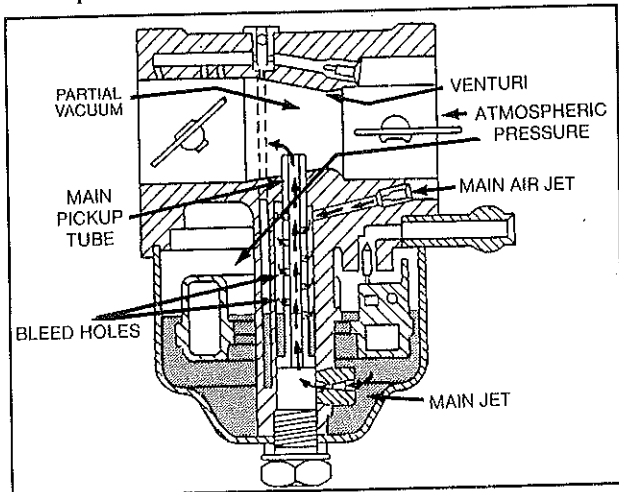

Fig. 6 - High Speed Operation
1. As the piston opens the intake port, a partial vacuum forms in the carburetor throat, Fig. 6.
2. Atmospheric pressure pushes air through the venturi causing a drop in pressure at the venturi throat, Fig. 6.
4. Atmospheric pressure pushes air through the main air jet to the outside of the main pickup tube, Fig. 6.
5. This air then enters through the main pickup tube bleed holes and mixes with the fuel coming up the inside of main pickup tube, Fig. 6.